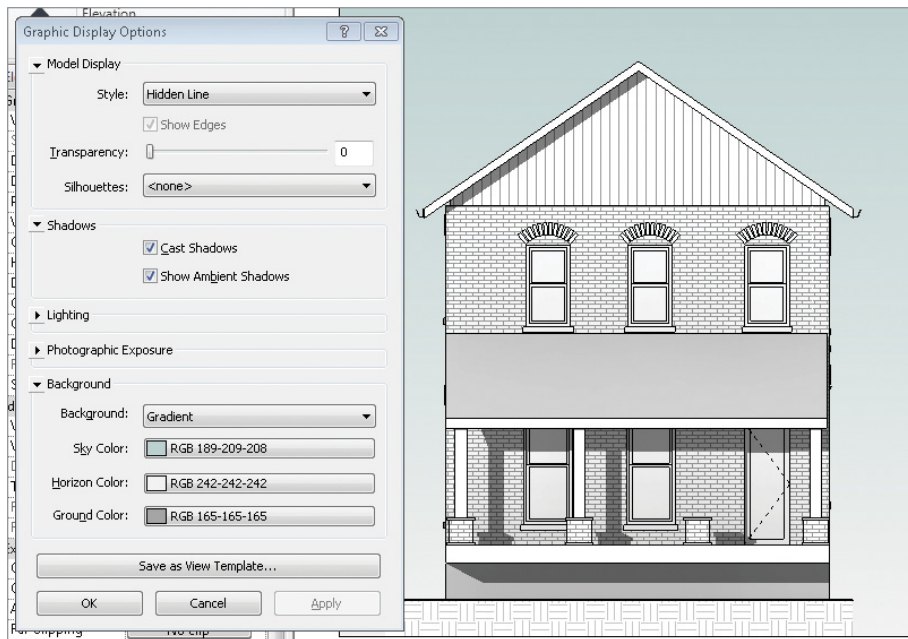

FIGURE 9.9 Shadows and background
3. Expand the Background section. Chose Gradient from the drop-down list. Click Apply again to see this effect. You should see something similar to Figure 9.9.